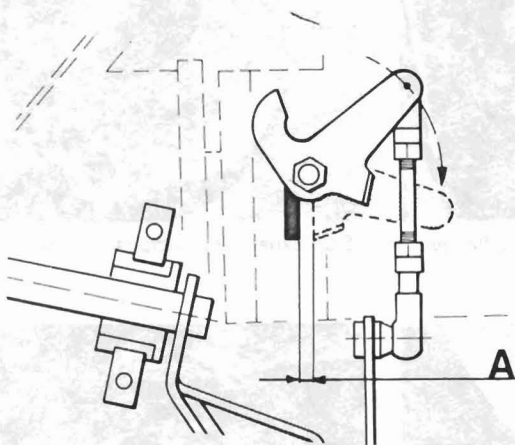

Fig. 3.11 Throttle control clearance at carburettor (Sec 14)
- 2 Depress the accelerator pedal fully and have an assistant measure the clearance at the carburettor between the throttle control lever and the stop on the carburettor. This should be as shown in Fig. 3.11.